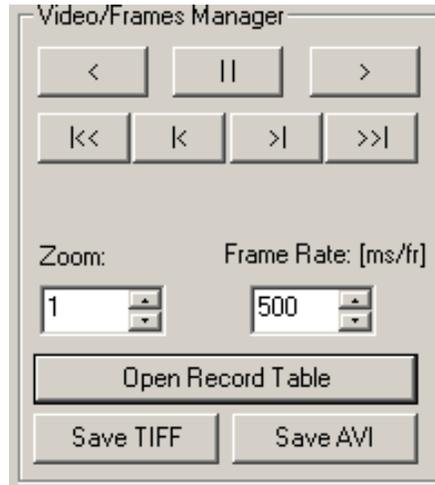

Figure 3: Video/Frame Manager controls
FastViewer provides Video/Frame controls to enable the user to view the images that were stored in the system memory and to save them as a collection of TIFF files or as an AVI movie file. The user can also determine the frame rate and “zoom in” and “zoom out” scale. Figure 3 and Table 2 present all the Video/Frame Manager controls
2. Triggered Grabbing (see Figure 3)